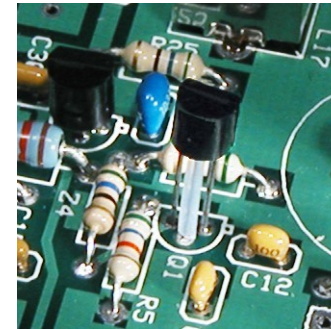

Figure 30. Installing Q1 with Teflon Spacer.
- __C13, .047 (473) ⇒ __C12, 10 pF (100)
- __C14, 33 pF (330)
- Install transistor Q1 (MPS918) near U2 so that the Teflon tubing acts as a spacer to hold the transistor above the board. One end of the tubing should contact the bottom of Q1's case and the other end should rest against the top of the circuit board (see Figure 30).